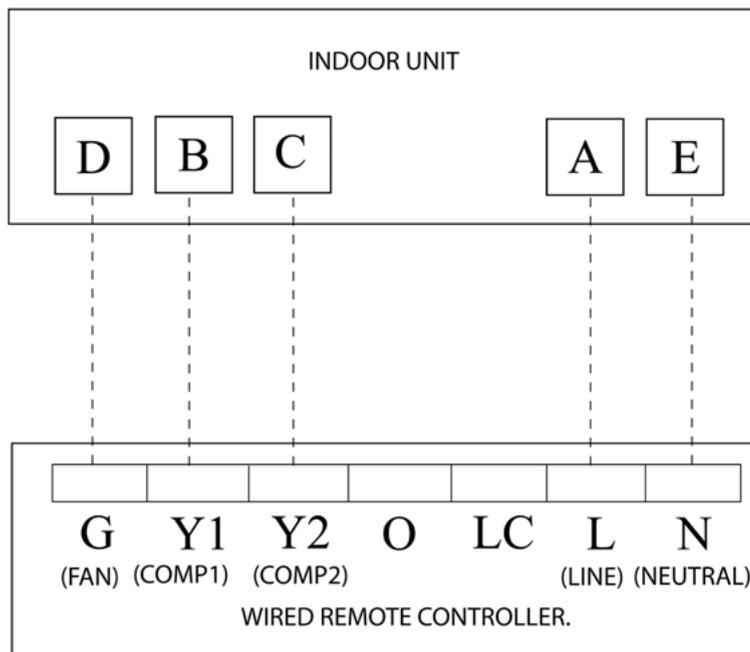

Fig. 6. Wiring connection
3. Use cable size $0.5-1 \text{ mm}^2$ connect the wires from indoor unit to the remote controller. See wiring diagram of indoor unit for location of remote controller terminals and refer to Fig. 6. for details.